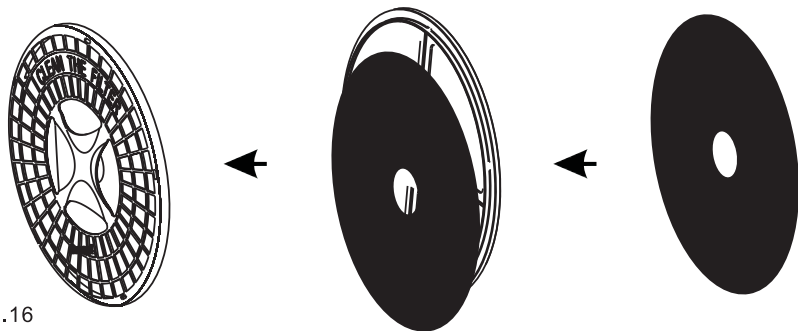

Fig.16
- After cleaning the Lint Filter, you must re-assemble the parts in the correct sequence (Lint Filter - Exhaust Filter - Exhaust Vent Shroud), aligning the recesses in the centre with the projection in the centre of the Tumble Dryer Drum. Make sure that the Filter Assembly is firmly inserted (Fig.16).